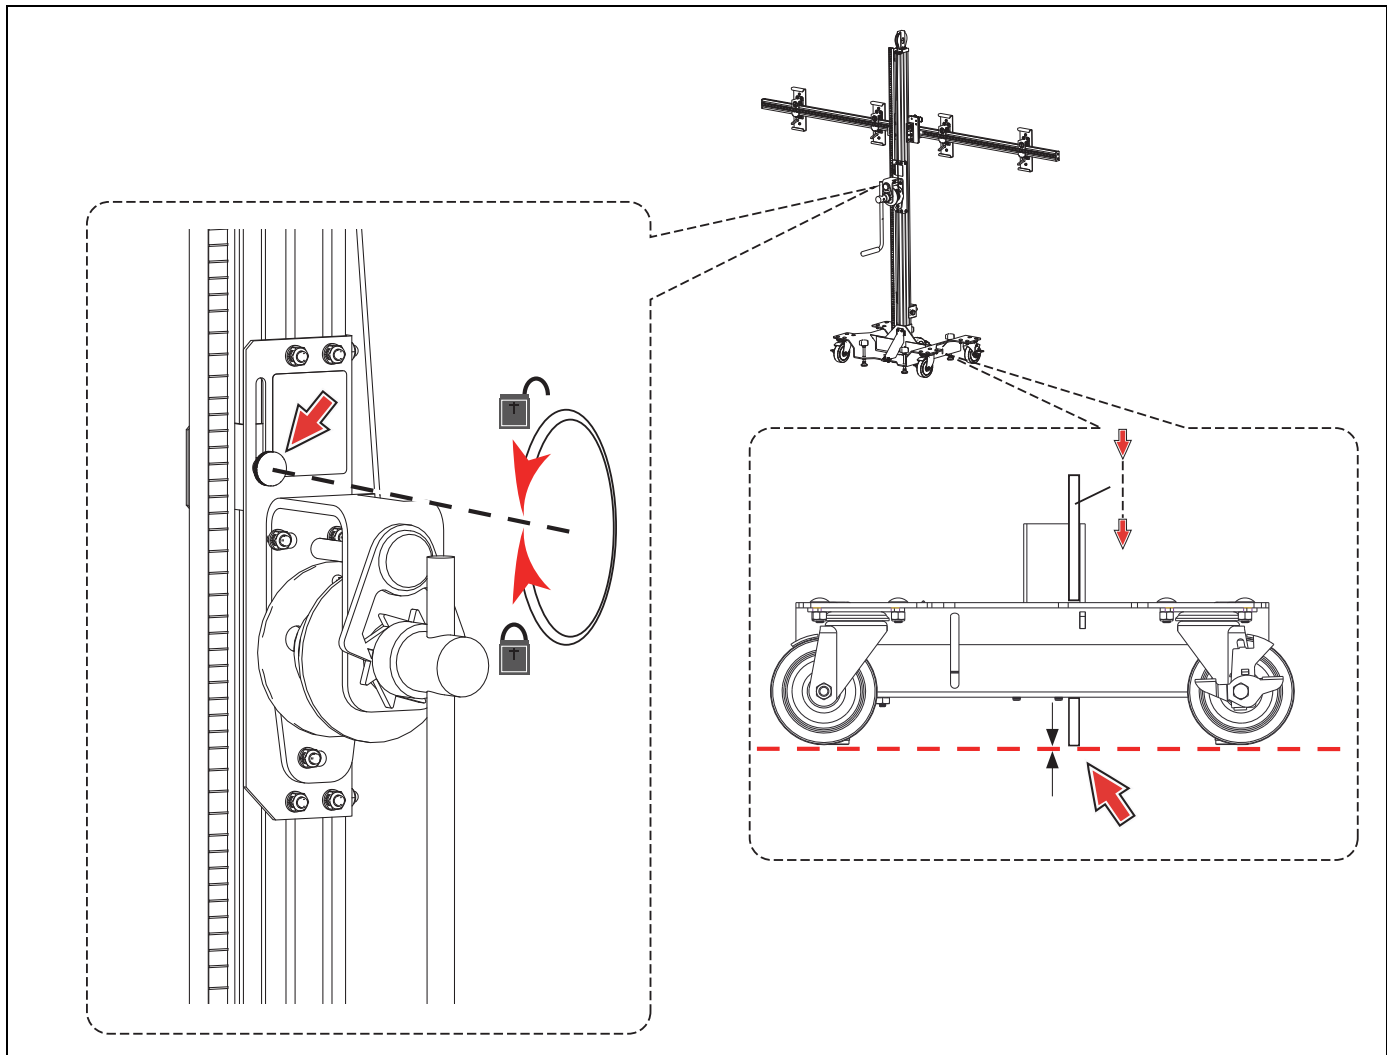

Figure 4-16
1. Unlock the vertical scale thumbscrew, and move the scale down to touch the floor then lock the scale (Figure 4-16).